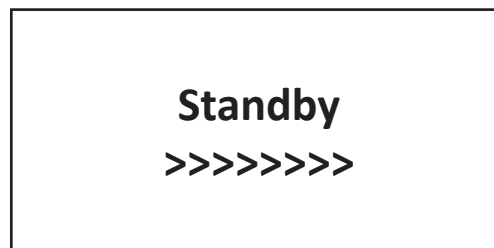

Figure 6-3 Inverter system in standby mode
(3) Standby mode, as shown in Figure 6-3: